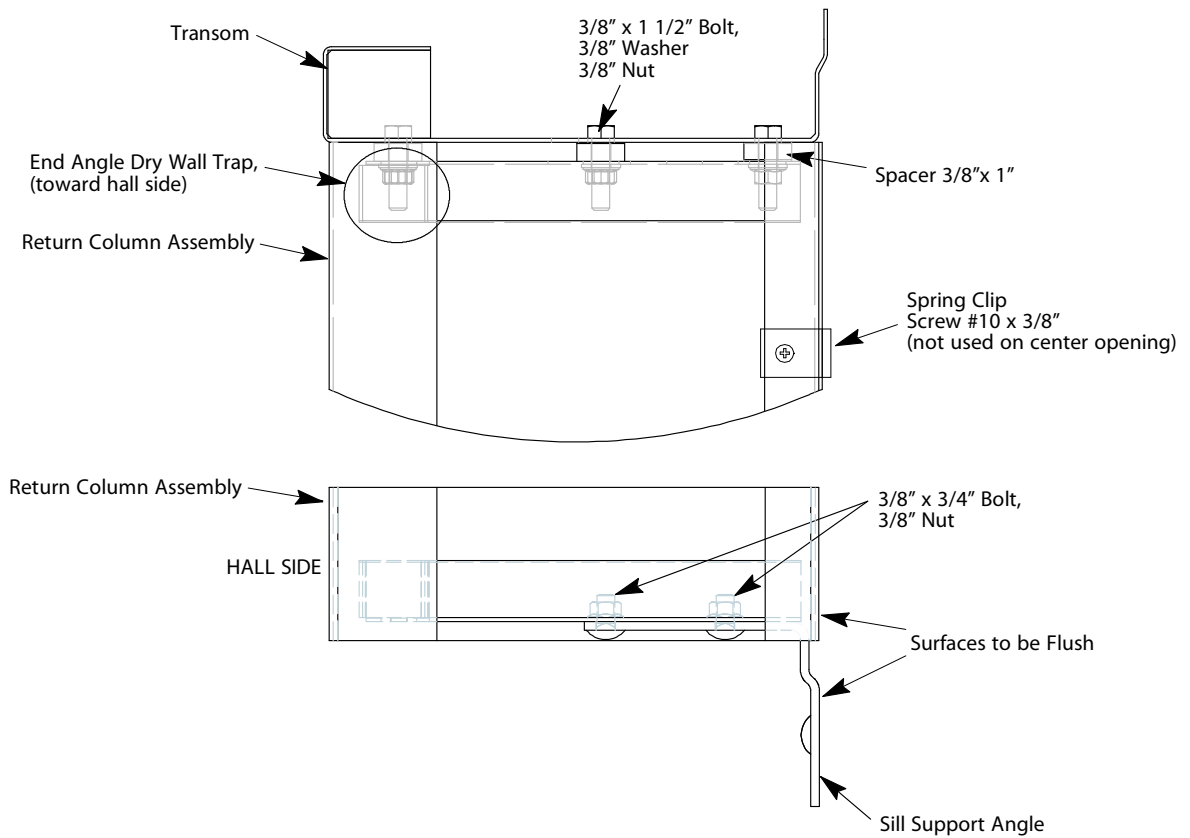
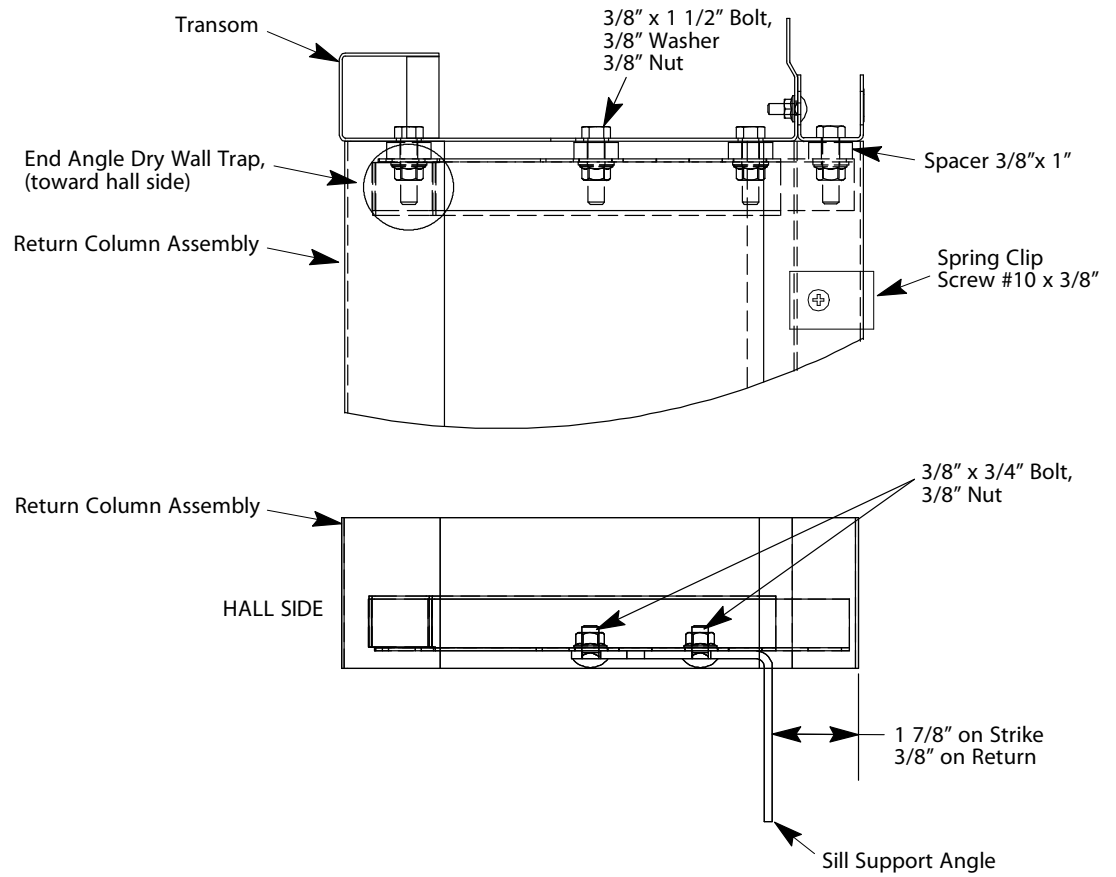

Figure 7 - Single Speed and Center Opening Frame Assembly
Figure 8 - Two Speed Opening Frame Assembly
1. With the face side down, use the proper spacers and hardware to assemble the strike and return columns to the transom. Place the columns so that the end angle dry wall trap is toward the hall side. Single Speed see Figure 7; Two Speed, see Figure 8 on page 15.